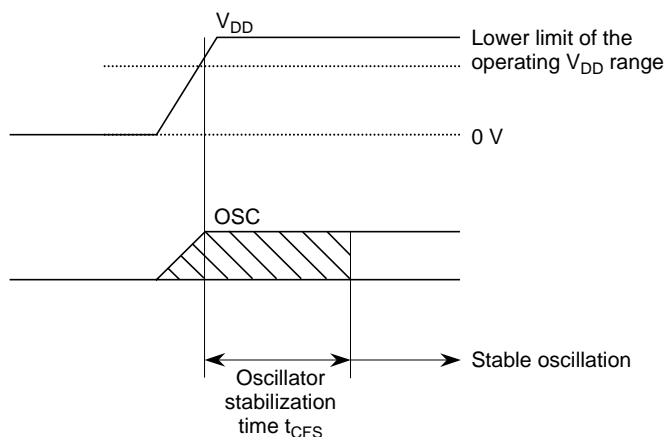

Figure 3 Oscillator Stabilization Time
8. Indicates the required time for oscillation to stabilize starting from the point when V_{DD} first exceeds the lower limit of the operating supply voltage range. (See figure 3.)